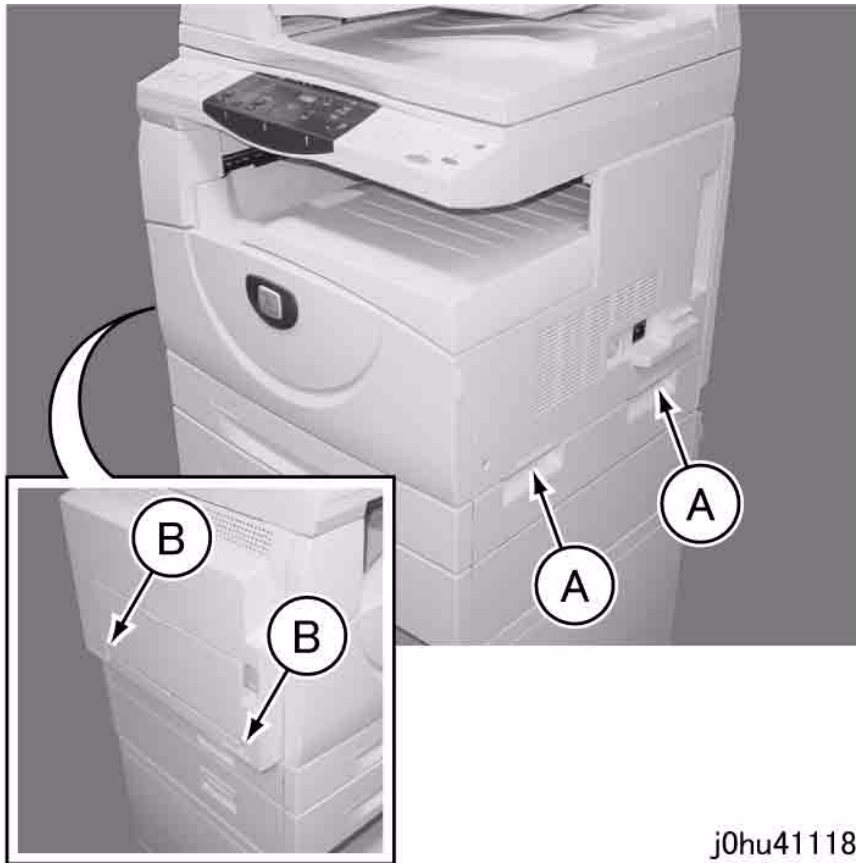

Figure 4 Remove IOT from Tray 2 Module
4. Hold onto A (2) and B (2), and remove the IOT from the Tray 2 Module (Figure 4).